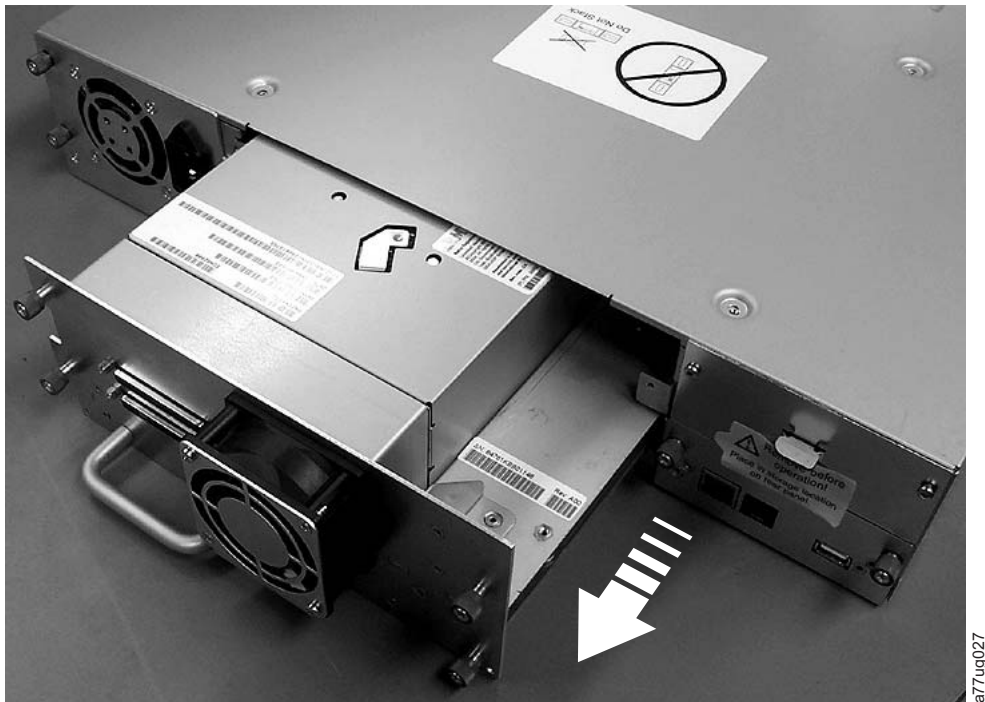

Figure 10-7. Pulling the drive sled out of the library (drive sled without ESD springs shown)
7. Pull straight back on the drive sled handle (**10**) to remove it from the library (see Figure 10-7).